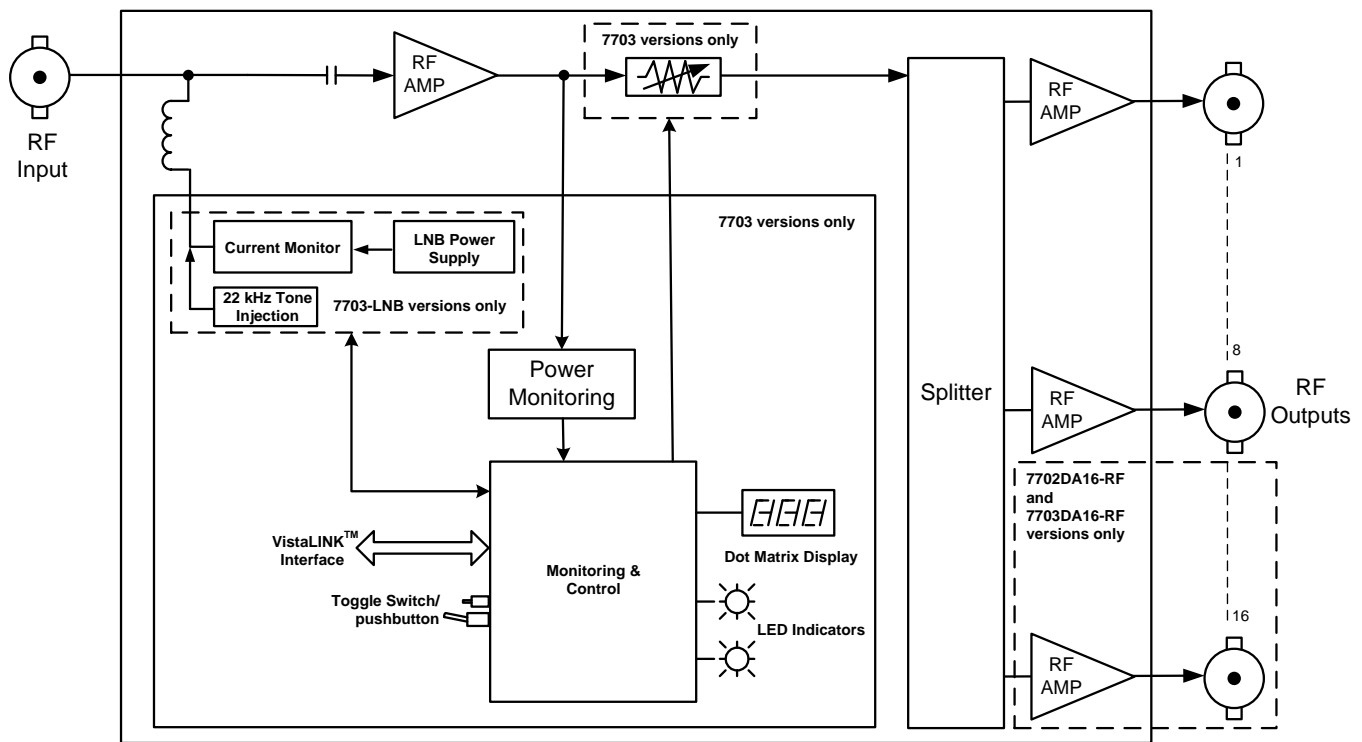

Figure 1-2: 7702(3)DA8A-RF & 7702(3)DA16-RF Block Diagram
- Figure 1-2: 7702(3)DA8A-RF & 7702(3)DA16-RF Block Diagram 2